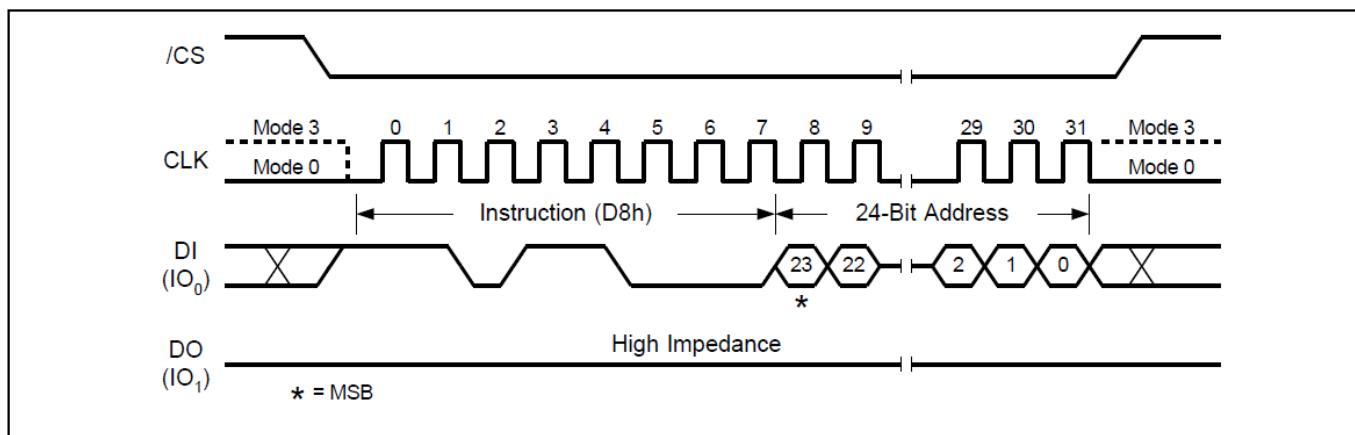

Figure 18. 64KB Block Erase Sequence Diagram
The 64KB Block Erase command sequence: CS# goes low → sending 32KB Block Erase command → 3-byte address on DI → CS# goes high. The command sequence is shown in Figure 18. CS# must be driven high after the eighth bit of the last address byte has been latched in; otherwise the 64KB Block Erase (BE) command is not executed. As soon as CS# is driven high, the self-timed Block Erase cycle (whose duration is tSE) is initiated. While the Block Erase cycle is in progress, the Status Register may be read to check the value of the Write in Progress (BUSY) bit. The Write in Progress (BUSY) bit is 1 during the self-timed Block Erase cycle, and is 0 when it is completed. At some unspecified time before the cycle is completed, the Write Enable Latch (WEL) bit is reset. A 64KB Block Erase (BE) command applied to a block which is protected by the Block Protect (CMP, SEC, TB, BP2, BP1, and BP0) bits (see Table 1-2) is not executed.